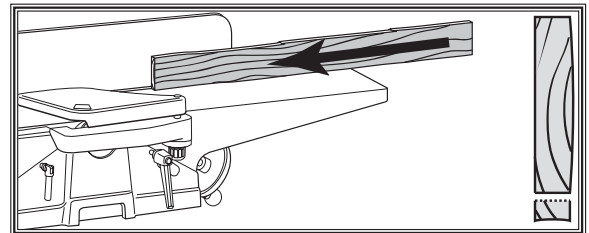

Figure 28. Edge joint on the jointer.
3. **Edge Joint On The Jointer:** The concave edge of the workpiece is jointed flat with the jointer (Figure 28).